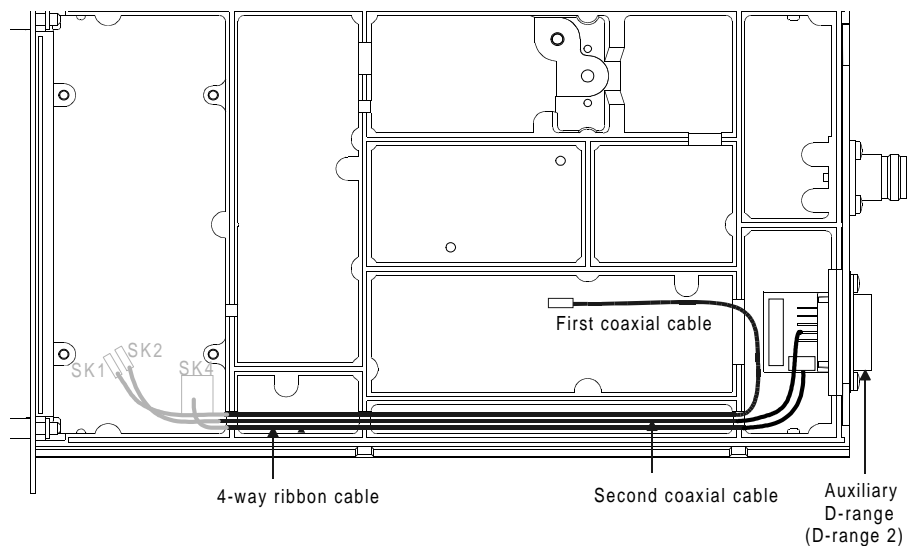

Figure 4 Cable Routing
9. Connect the 4-way ribbon cable to the Micromatch socket SK4 and feed it through the loom channel cast into the chassis, to the auxiliary D-range compartment, as shown in Figure 4.
10. Connect the coaxial cable provided between SK1 on the T800-32-0010 PCB and =SK710 on the T800 transmitter PCB, as shown in Figure 4.